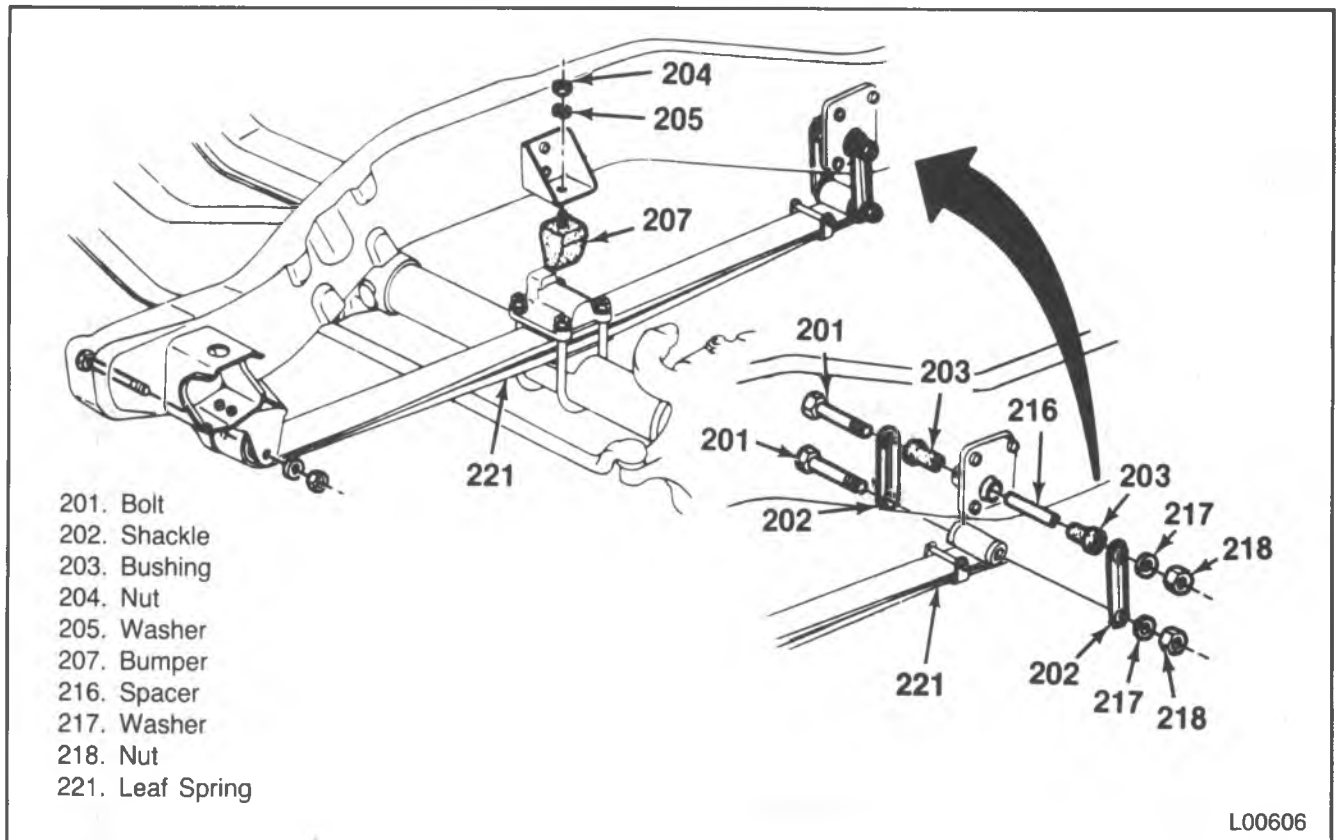

Figure 72 — Leaf Spring Attaching Parts
1. Nut (218), washer (217), shackle (202), bolt (201), bushings (203) and spacer (216) (figure 72).
2. Spring (221) from frame.
3. Nut (239), washers (240) and bolt (242) (figure 72).
4. Spring (221) from the hanger (241).
5. Spring (221) from the axle.
- For V10/1500-20/2500 and the left side of V30/3500 models, remove nuts (222), washers (223), U-bolts (227), plate (224) and the spacers (226).
- For the right side of V30/3500 models, remove the bolts (248), nuts (222), washers (223), U-bolt (227), plate (224) and the spacers (226).
6. Nut (218), washer (217), bolt (201), bushings (203) and spacer (216) (figure 72).
7. Shackle (202) from the spring (221).
- For V10/1500-20/2500 models and the left side of V30/3500 models, attach the lower spacer (226), plate (224), U-bolts (227), washers (223) and nuts (222) (figure 72).
- For the right side of V30/3500 models, attach the lower spacer (226), plate (224), U-bolt (227), washers (223), bolts (248) and nuts (222) (figure 72).